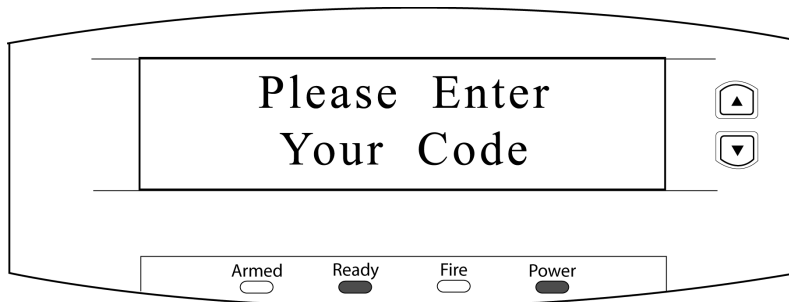

Figure 3: Alarm Panel - Enter Code
2. To enter the alarm panel programming mode, select the * 8 keys. The alarm panel keypad will beep three times then prompt for the programming code (see Figure 3).